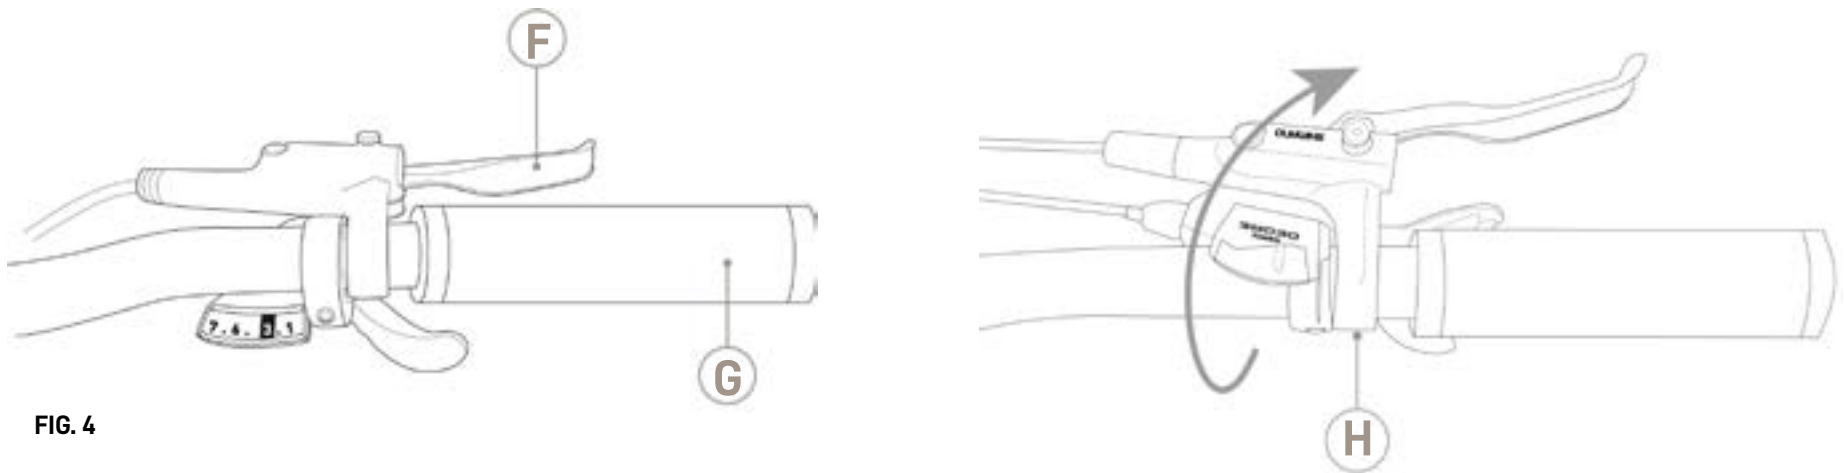

FIG. 4
The brake levers (Ref. F – Fig. 4) are located on the handlebar near the grips (Ref. G – Fig. 4). These systems allow the braking system to be activated. The braking action is proportional to the force applied on the levers.
- Rotate the brake lever using the tightening screw (Ref. H - Figure 4) until you reach a comfortable hand position; Check that you have tightened the screw correctly before using the pedal-assisted bicycle.